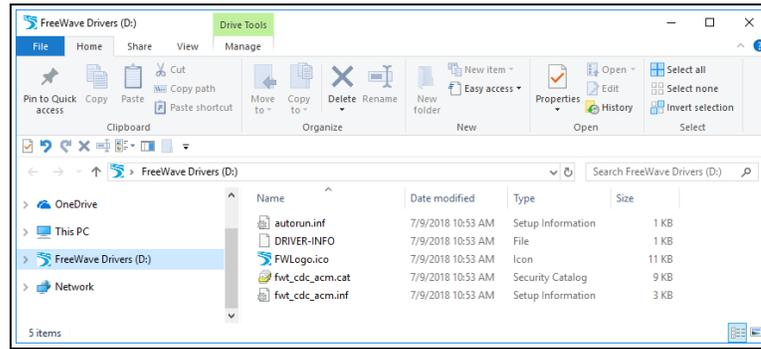
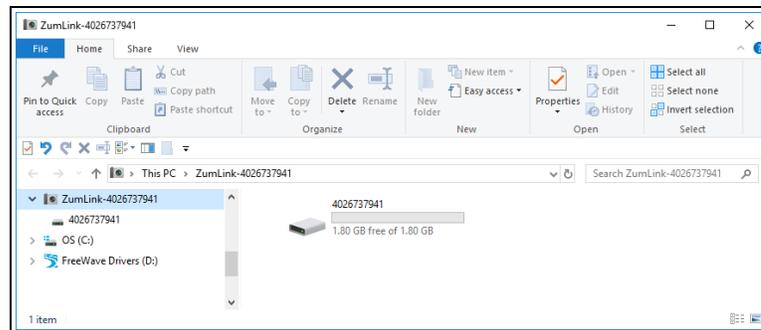

Figure 89: FreeWave Drivers window
Figure 90: ZumLink window
1. Connect the USB cable to the computer and the Micro USB end to the Z9-P or Z9-PE. The **FreeWave Drivers** and Z9-P or Z9-PE windows open. Figure 89 and Figure 90